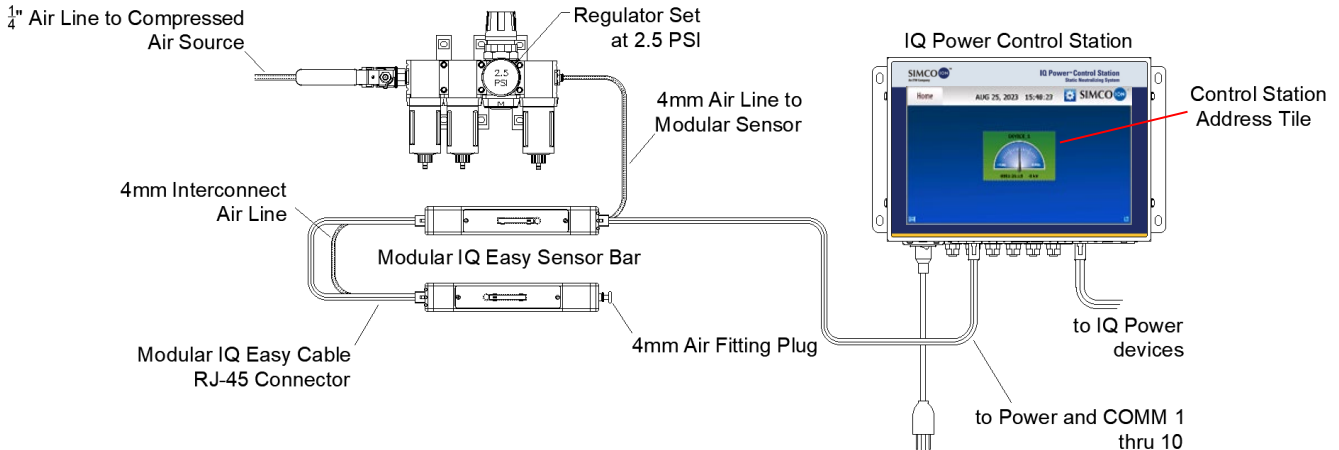

Figure 6. Completed Multi-Sensor Install
- To complete the install, follow the Mounting/Control Station instructions from the “Installing One Modular Sensor” section. See Figure 6. for a completed install with multiple RJ-45-style Modular Sensors.